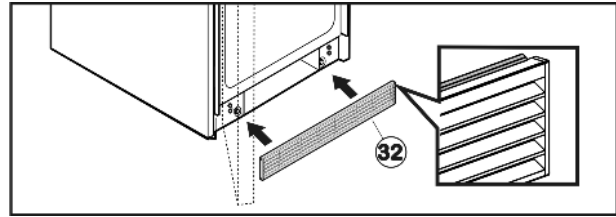

Fig. 35
- ▶ Fit lower ventilation grille Fig. 35 (32) flush with the floor such that the rubber lip is at the top. It is held in place via magnets.